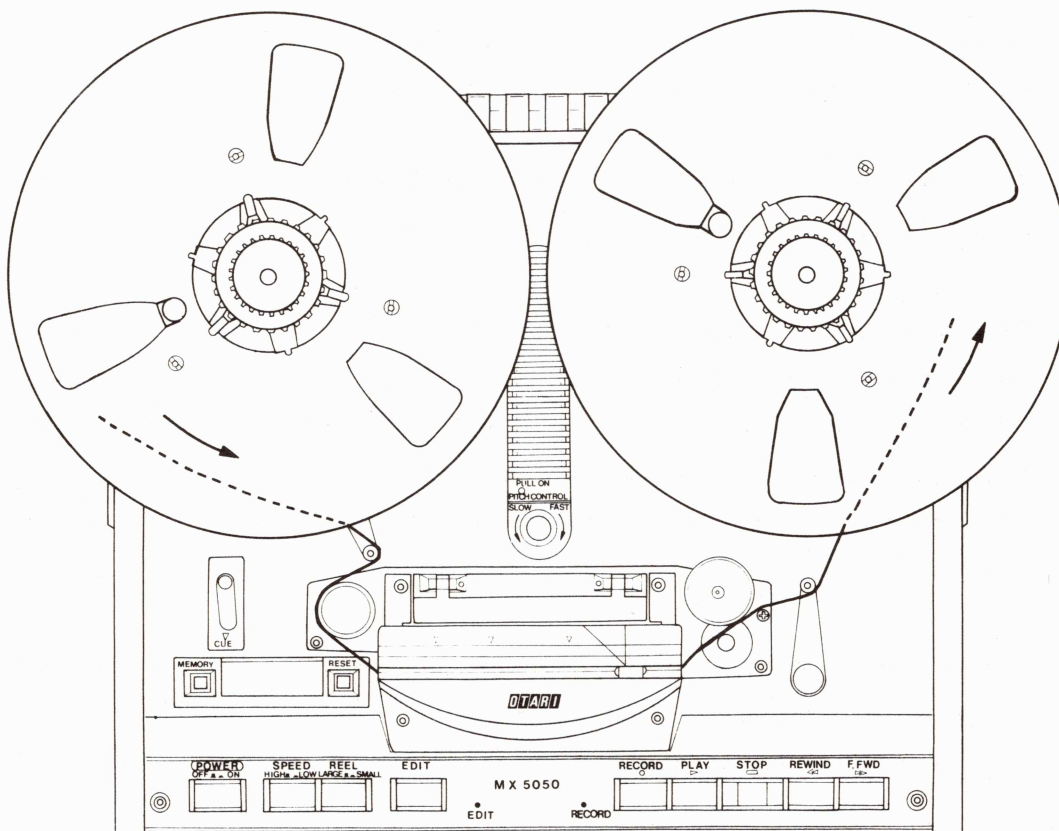

Figure 3-2 Tape Threading
- (4) Thread the tape as shown in Figure 3-2 and place the end of the tape in the slot of the empty reel, and rotate the reel for several times with holding the tape end and removing slack of the tape.
- (5) Set the HIGH/LOW SPEED switch to the desired tape speed.
- (6) Set the LARGE/SMALL REEL switch to correspond to the size of the reel hub diameter being used.